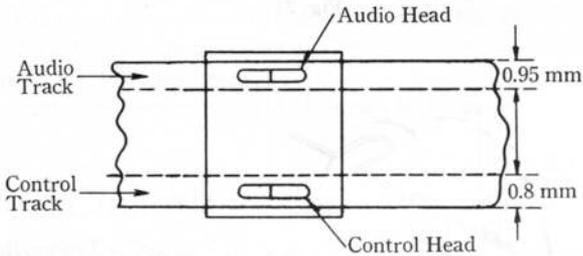

Fig. 28
Adjust the height and inclination by screws (A) so that the tape contacts normally with head. See Fig. 28.